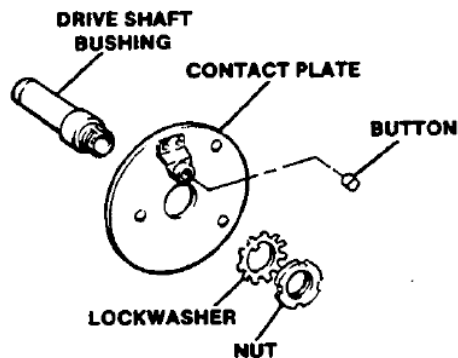

Figure 5-46. Contact Plate Assembly
19. Insert end of shaft in contact plate assembly (Figure 5-46), through commutator and side plate, and secure with retaining ring. Lift up gently on contact so it slides over commutator.